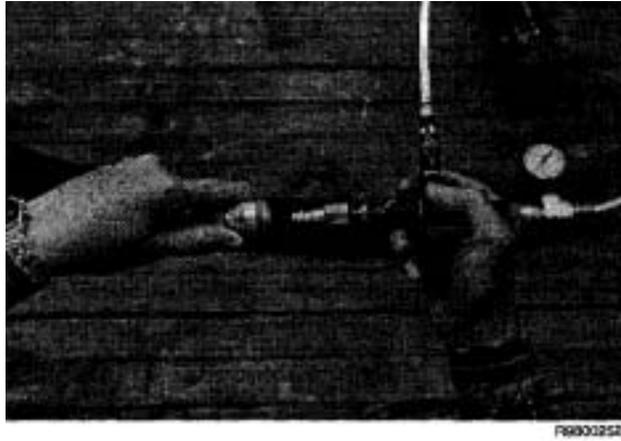

Figure 4—Apply shop air.
- Apply shop air to the Vacuum Transducer Pump (venturi) as shown in figure 4.